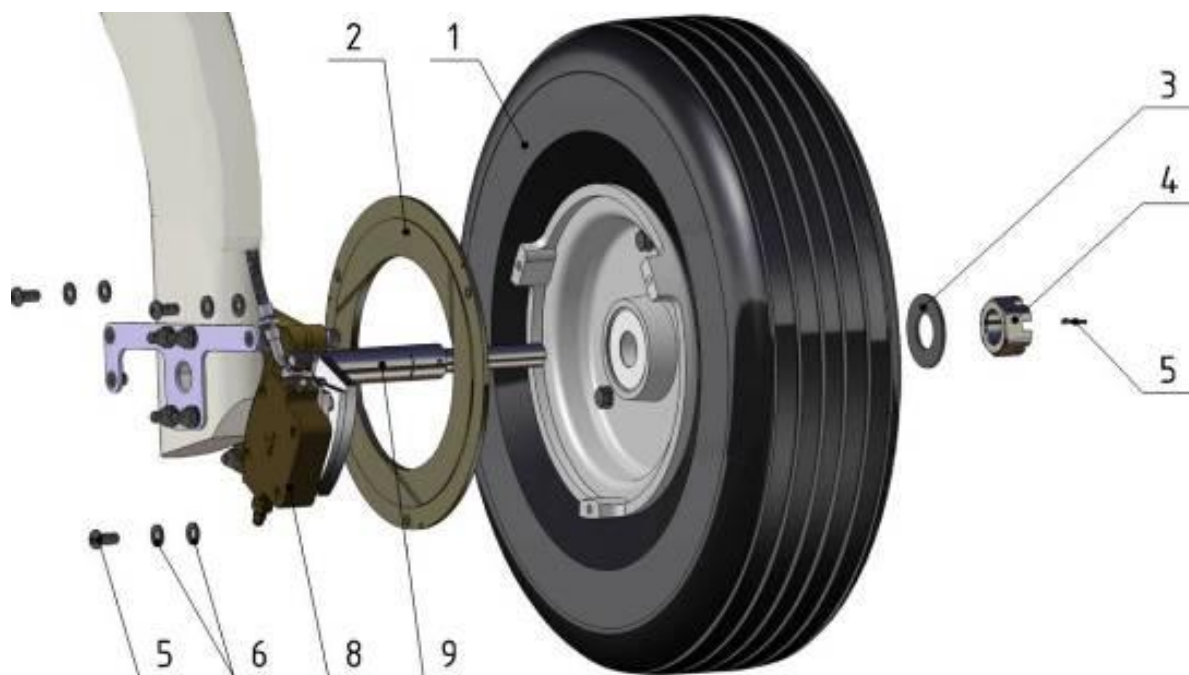

Fig. 32-10-5
B. Main Wheel Removal (Fig. 32-10-5)
C. Main Wheel Installation (Fig. 32-10-5)